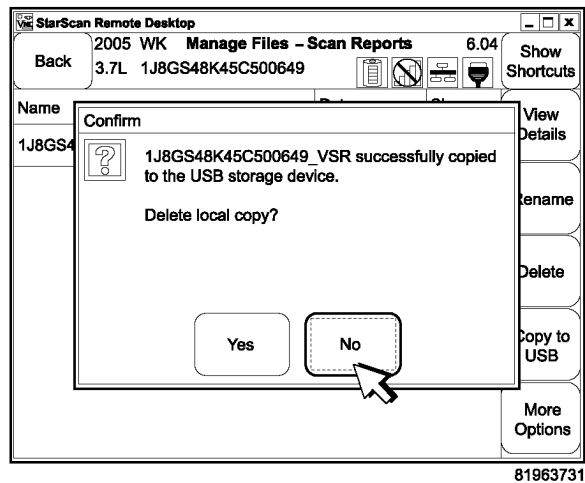

Fig. 11 MANAGE FILES - USB - DELETE LOCAL COPY SCREEN
12. A “USB” dialogue screen asks “Delete local copy?” Select “Yes” or “No” (Fig. 11).